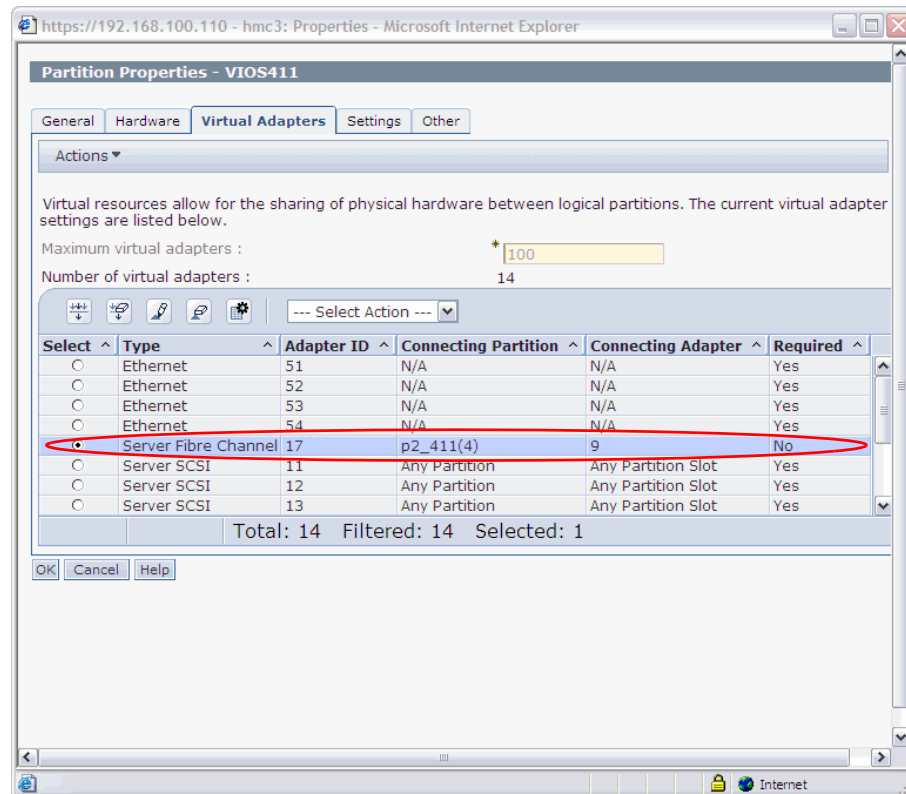

Figure 2-7 Virtual Fibre Channel server adapter created on Virtual I/O Server
1. Create the virtual Fibre Channel server adapter on the Virtual I/O Server. Something similar to the highlighted portion in Figure 2-7 is what you should see when this step is complete.